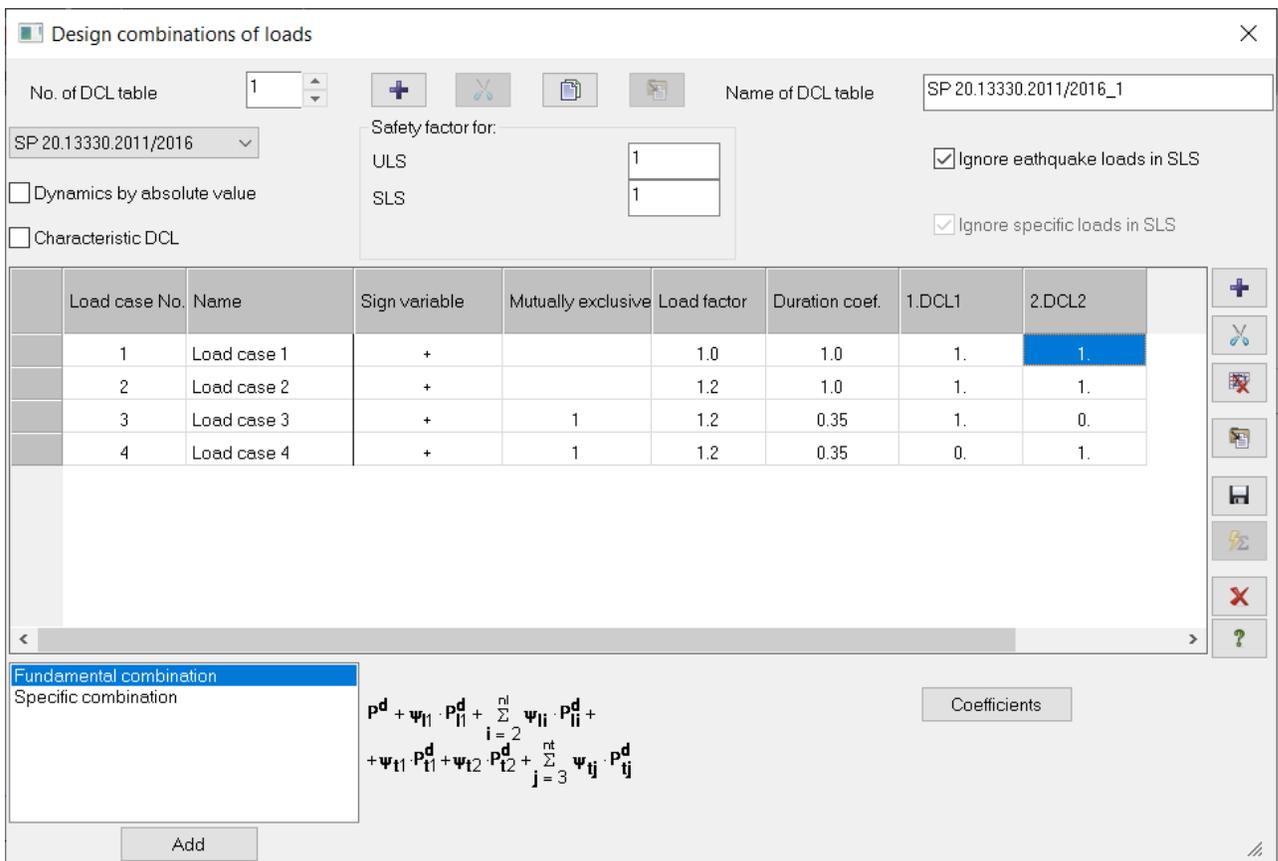

Figure 19.22 Design combination of loads dialog box
- ⇒ In the **Design combinations of loads** dialog box (see Fig. 19.22), select building code **SP 20.13330.2011/2016** and for load cases 3 and 4, in the **Mutually exclusive** cell, define **1**.